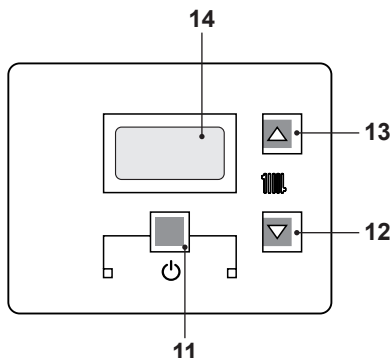

Fig. 2.5
- Press the key 11 for 2 seconds until  symbol appears on the display Fig. 2.5.
The output temperature of c.h. water can be adjusted by acting on keys 12 (reduce) and 13 (increase) (Fig. 2.5) from a minimum of about 25°C to a maximum of about 85°C. Press one of the two keys once to display the "set" value. Press again to access the modification.
However, if the ambient temperature is not comfortable, the flow temperature of the heating plant can be increased or reduced by $\pm 15^{\circ}\text{C}$ by acting on keys 12 (reduce) and 13 (increase) (Fig. 2.5).